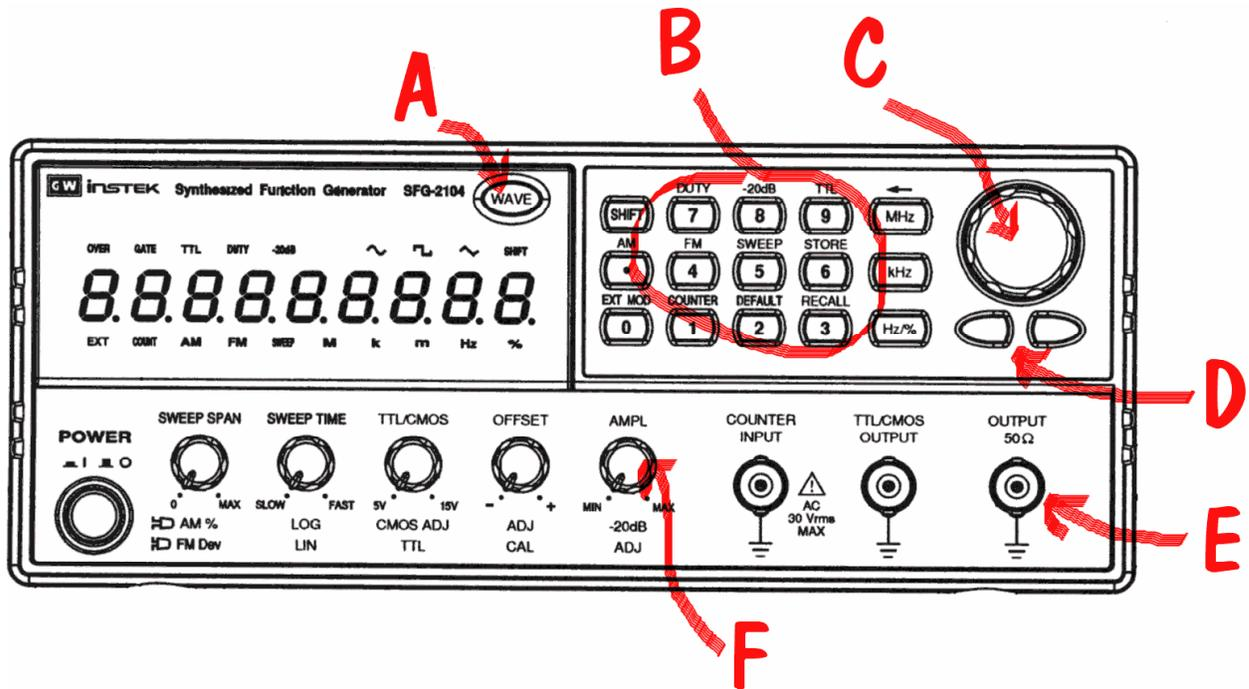

Figure 6: Front Panel of the Signal Generator
With the "WAVE"-button (item A in Fig. 6), one can toggle between triangular, rectangular, and sine wave as an output. The choice is displayed directly below this button.
- Direct input via the keypad (item B of Fig. 6), type the number and enter the value by pressing the appropriate unit (Hz, kHz, or MHz).
- If a value is already entered and displayed, each single digit can be changed separately. With the two keys (item D of Fig. 6), the active digit is selected, it is blinking a few seconds after the selection. Then, with knob C, the digit can be changed, wait at least one second, until the change becomes active at the output.